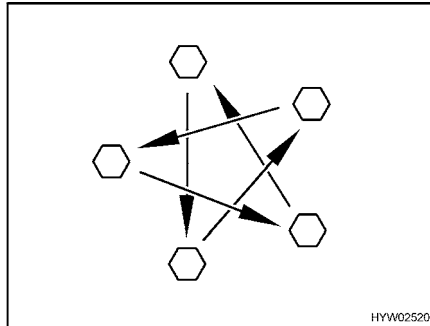

Fig. 111 Tighten the wheel nuts or wheel bolts cross-wise
- Check regularly that the wheel nuts or wheel bolts are firmly seated. Retighten the wheel nuts or wheel bolts of a changed wheel cross-wise (Fig. 111) after 50 km (30 miles). See section 13.5.2 for tightening torque.
- ▷ Tighten the wheel nuts or wheel bolts cross-wise (Fig. 111).